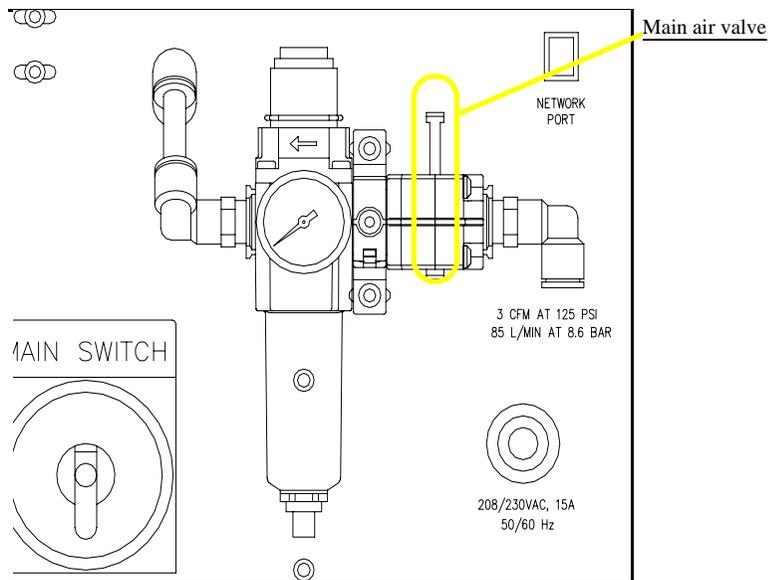

Figure 5-42—Push bar down on main air valve to turn off air
- 3b) On the input panel (on the rear of PS288), push the yellow bar down to shut off the input air (see *Figure 5-42*).